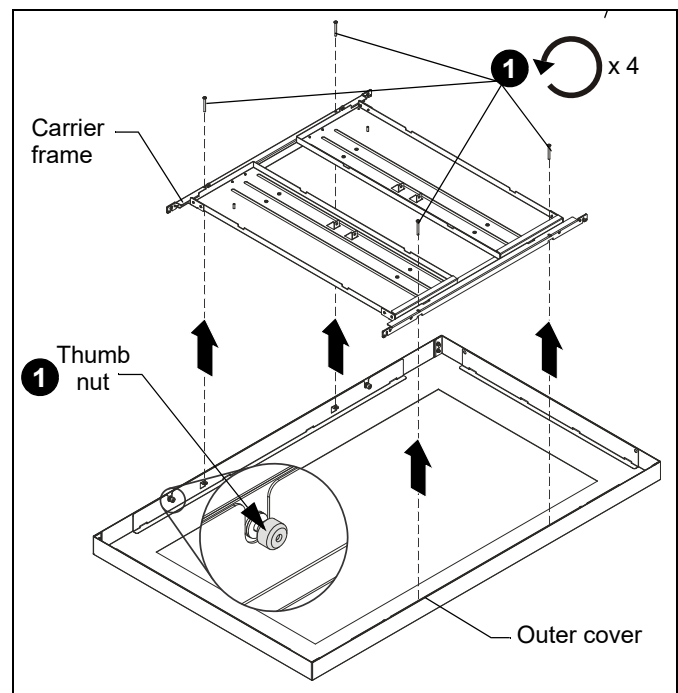

Figure 7
1. Remove and **SAVE** four Phillips screws, loosen four thumb nuts and remove carrier frame from outer cover. (See Figure 7)